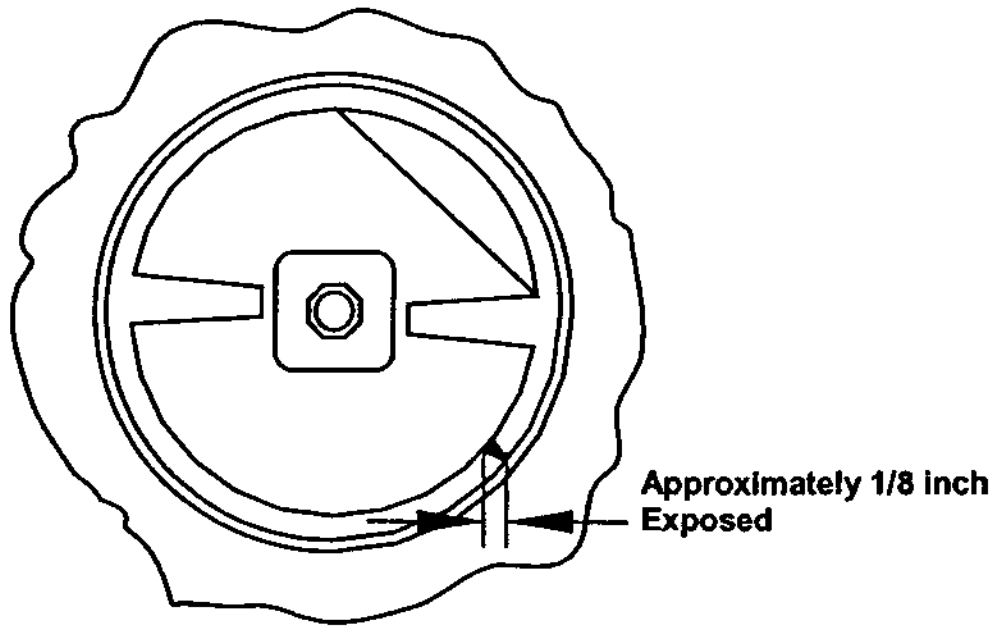

**Fig. 30**
- g. Insert the dasher assembly into the freezing cylinder as far as possible (Fig. 29) being careful not to damage the scraper blades. Damage will occur to the scraper blades and the dispenser will not operate properly if the scraper blades are installed facing in a clockwise direction (Fig. 30).
**Note:** The stator rod has been deleted from Fig. 29 and Fig. 30 for clarity only. The stator rod must be installed for proper machine operation.